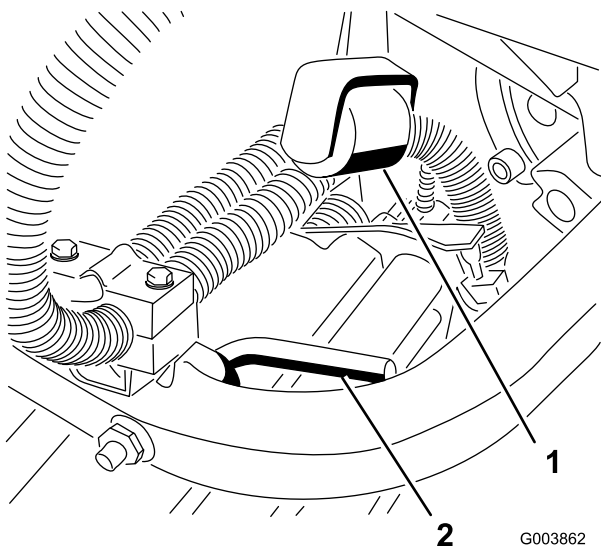

Figure 12
10. Check the adjustment of the lock-up rollers (Figure 12). When properly adjusted, they will contact the lock-up levers on rear lift arms and support the cutting units when fully raised.